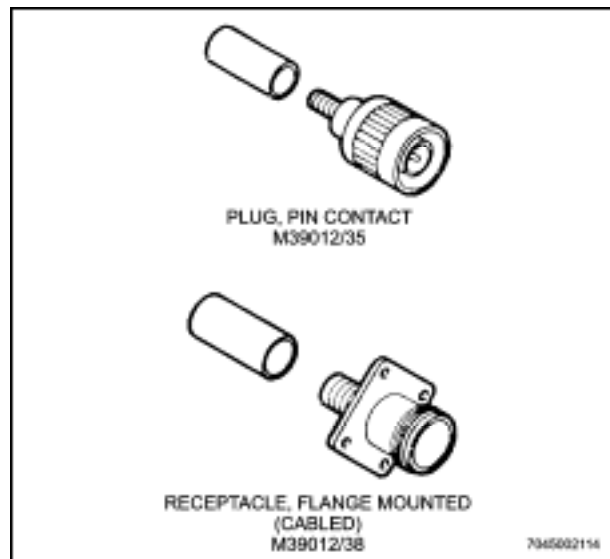

Figure 12-8 Typical SC Connectors
- g. **SC Series.** A connector used with medium size coaxial cables; similar to the C series, but having a threaded coupling. (See Figure 12-8.)